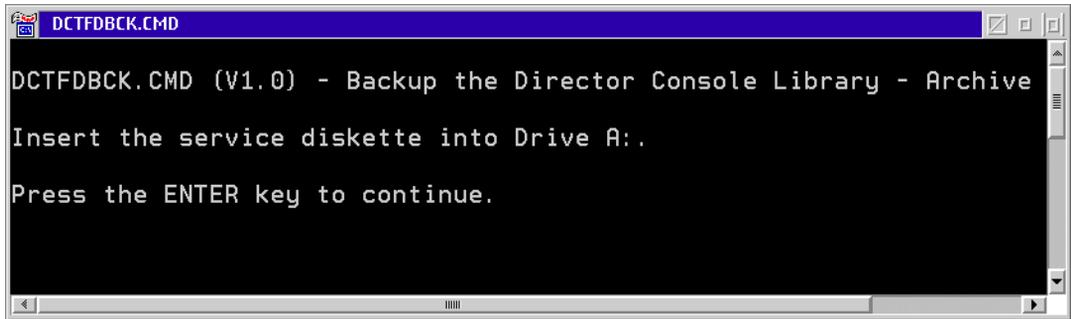

Figure 61 DCTFDBCK.CMD Window
5. To back up director console library files at the *OS2TOOLS - Icon View*, double-click the *DCTFDBCK.COM* icon. The *DCTFDBCK.COM* window displays (Figure 61).